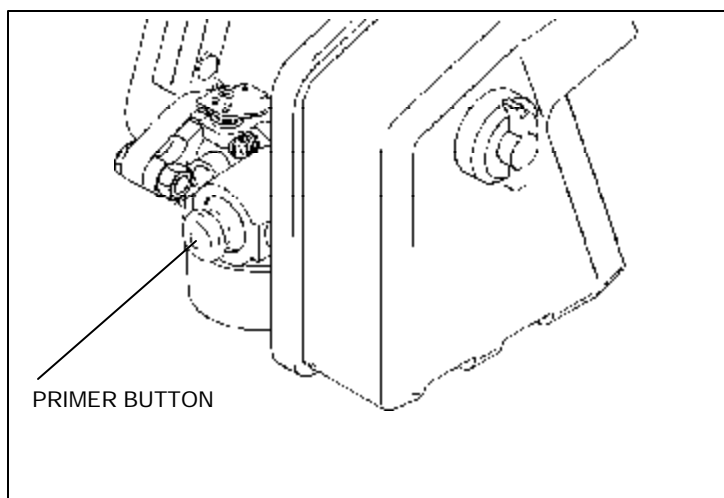

Figure 3
- B. Push primer two (2) or three (3) times (see Figure 3). Wait about two (2) seconds between each push. In cold weather (50°F/10°C or below) push five (5) times.